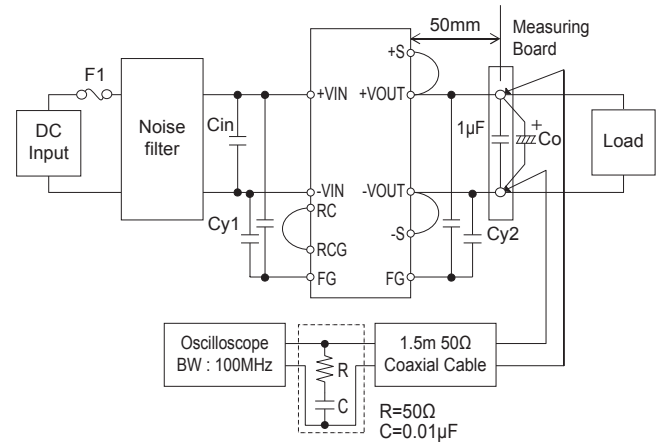

Fig.2.5 Method of Measuring Output Ripple and Ripple Noise
■The specified ripple and ripple noise are measured by the method introduced in Fig.2.5.